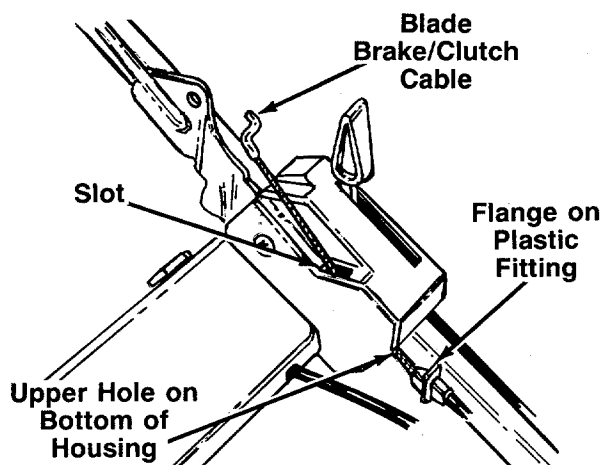

FIGURE 4.
5. The brake cable is attached to the engine. Route the brake cable inside the handle mount bracket and under the lower handle. Place end of cable into the upper hole on the bottom of the control housing, and through the slot on the side of the housing as shown. The angle of the flange on the plastic fitting must be positioned downward as shown in figure 4. Be careful not to bend or kink the cable.